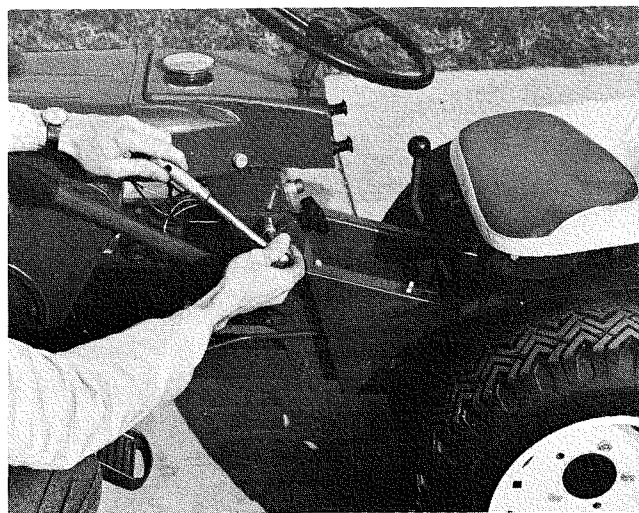

Figure 1
2. Remove tractor quadrant (part number 2274). (See Figure 1)